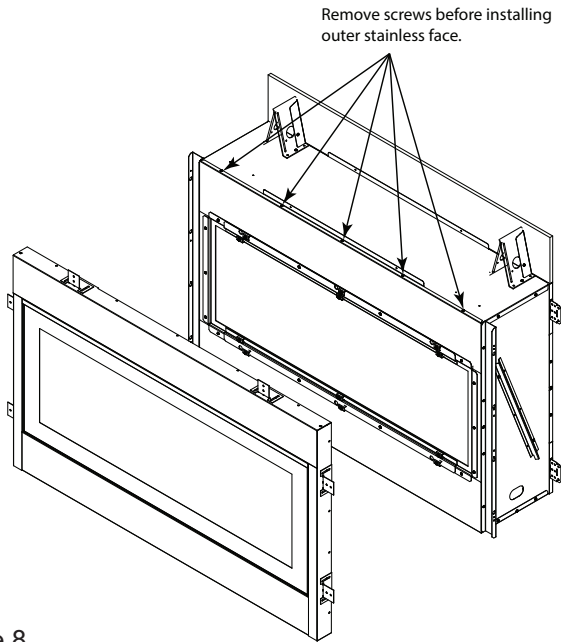

Figure 8
11. Remove the screws that attach the top face to the top pan so the outer stainless face can be installed. See Figure 8.
**NOTE:** To improve the thermal insulation properties of your outdoor kit, we recommend installing four (4) strips of non-combustible insulation (not supplied) behind the facing kit inside the perimeter of the outer frame. Before installing the face, install insulation with a thin coat of construction adhesive. See Figure 8.